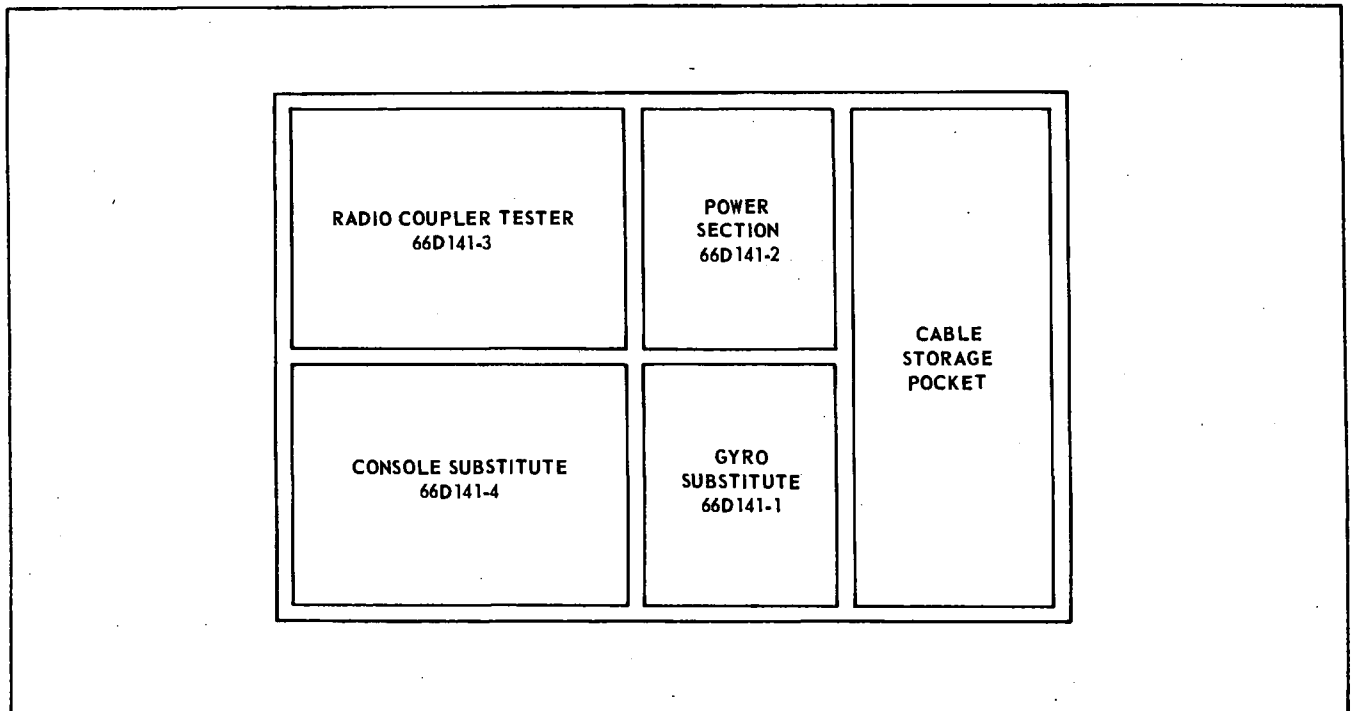

Figure 4-5. Block Diagram Of 66D141 Test Kit
a. Shown in Figure 4-5 is a block diagram of the complete test kit instruments and cable storage area. Each test kit has a serial number. Make sure the equipment in the kit has the correct serial number. When referring to the factory for service or calibration of any instrument, give serial number of the equipment.